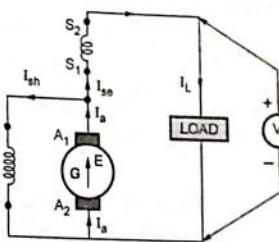

Fig. 7.12.2 Short shunt compound generator
In this type, shunt field winding is connected only across the armature, excluding series field winding as shown in the Fig. 7.12.2.
- For the Fig. 7.12.2,  $I_a = I_{se} + I_{sh}$  and  $I_{se} = I_L$